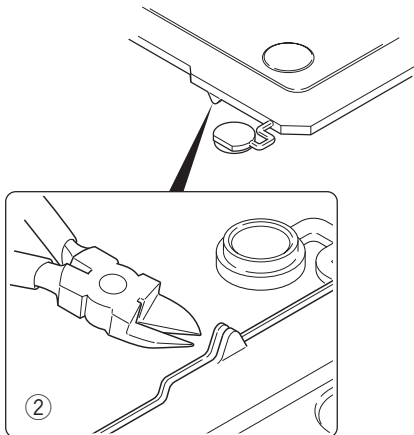

Fig. 7-3
**Note :** If the GPS receiver is installed, cut the base of the convex tab of the top packing with a pair of nippers, or similar tool. (Fig. 7-3 ②)